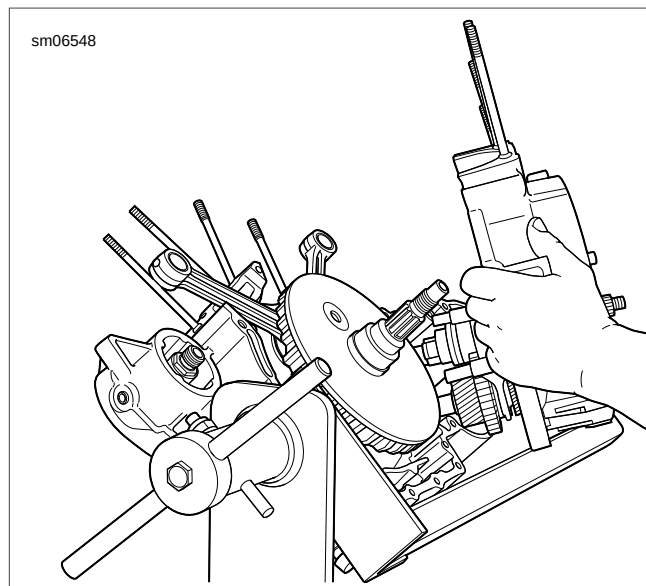

Figure 3-111. Separating Crankcase Halves
6. See Figure 3-111. Tap crankcase gently with rawhide mallet to loosen and separate the halves. Remove left crankcase assembly with transmission.